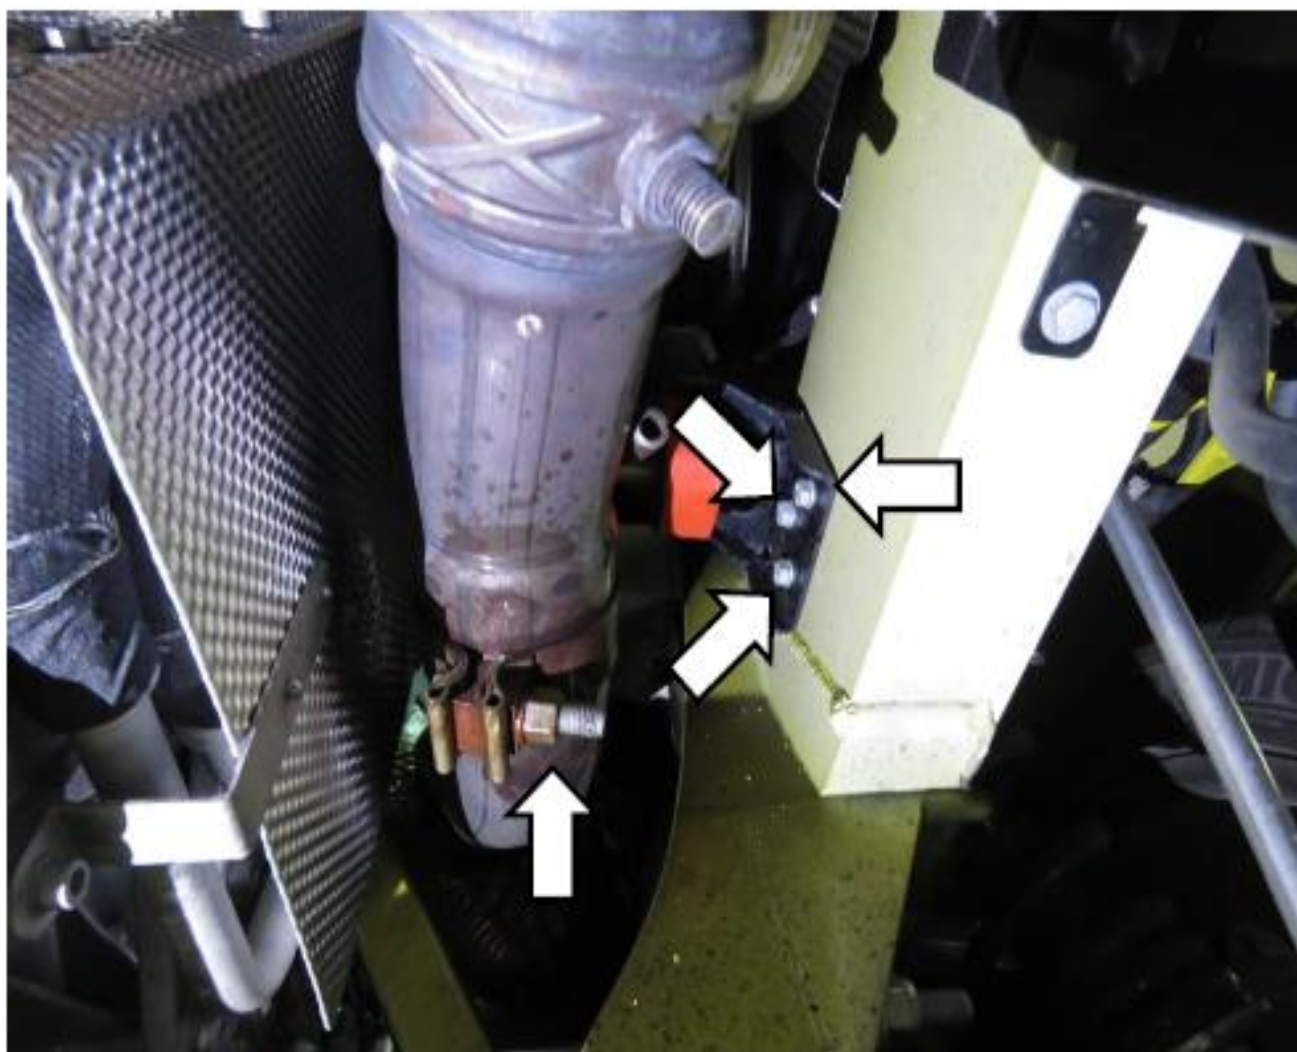
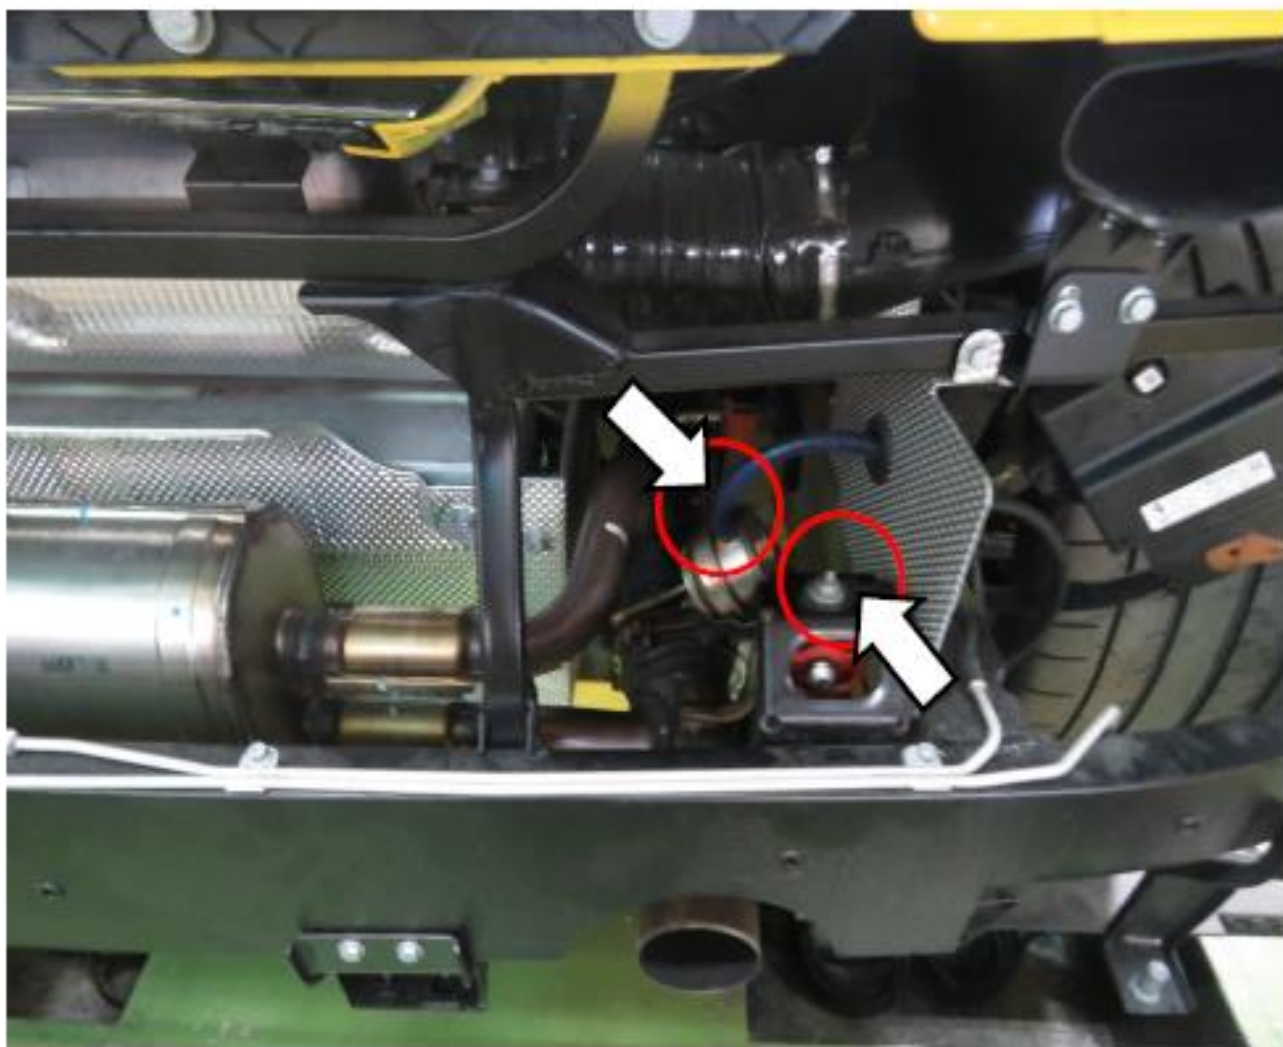

figure 8
figure 9
3. Unscrew the bundle ring nut; unscrew the front and rear lifting lugs on both sides of the barrel and remove the exhaust valve vacuum tube (Figure 8, Figure 9)